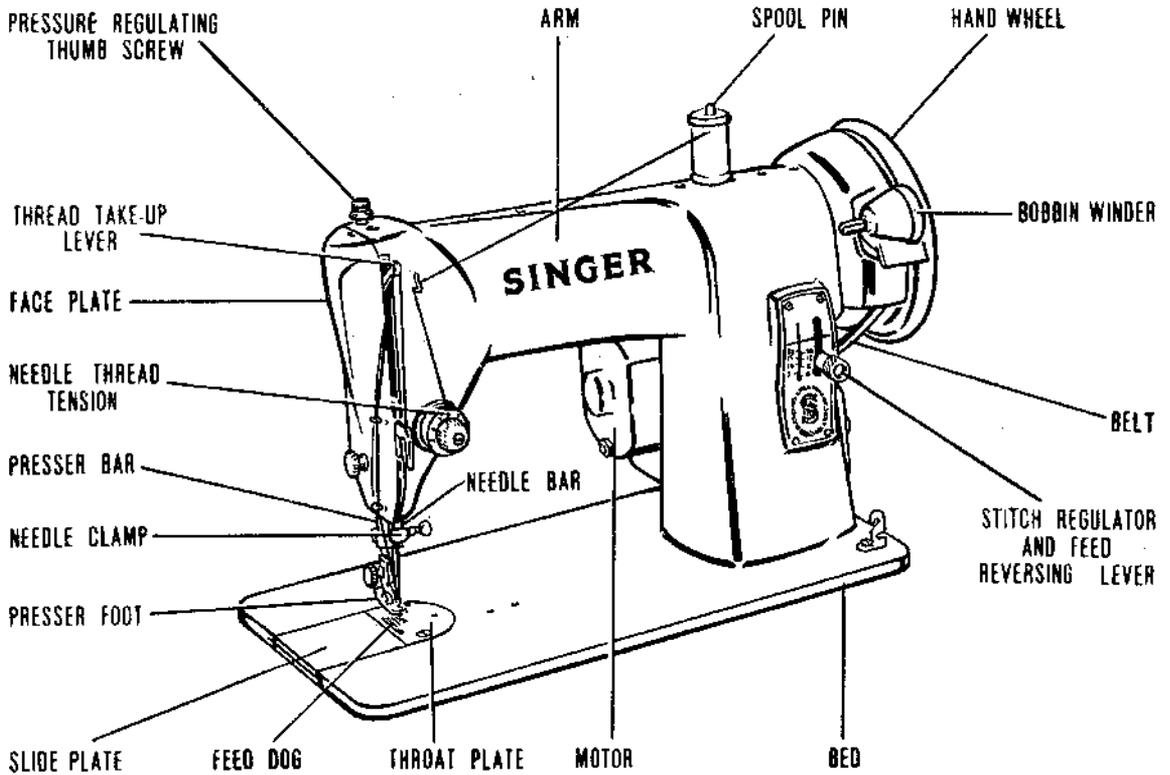

FIG. 1. PRINCIPAL PARTS OF THE HEAD.
- Head**—the part above the table (Fig. 1) containing the stitching mechanism.